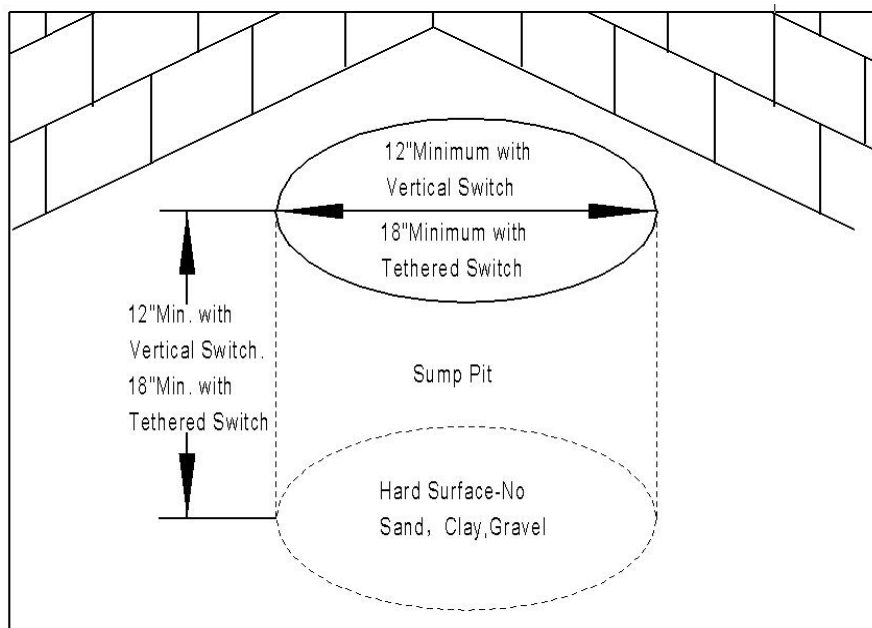

Figure 1
- 1A. Minimum sump size: 12" (305mm) diameter by 12" (305mm) depth for vertical switch models; 18" (457mm) diameter by 18" (457mm) depth for tethered switch models. (See Figure 1.)